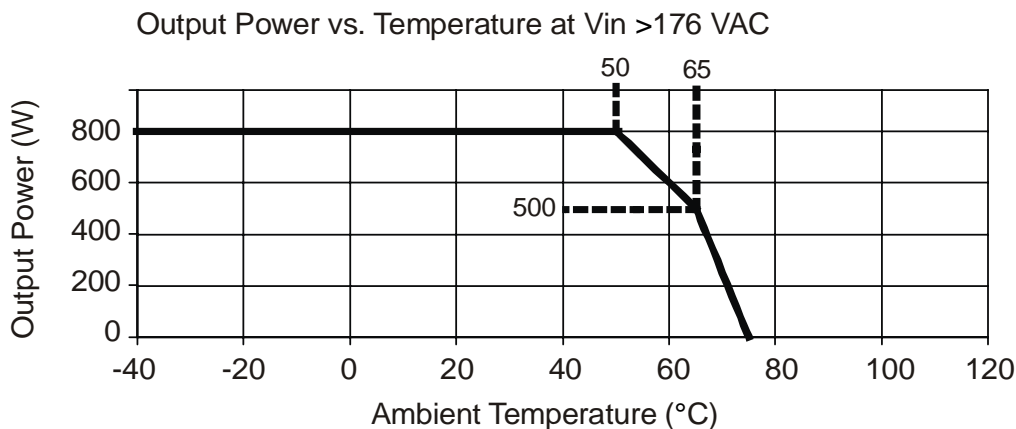

Figure 7
3.1.6 Power Derating Based on Temperature: The Rectifier Module delivers full power when operating at an ambient temperature of +50°C (+122°F) or below. Refer to Figure 7 to view the relationship between the output power and the ambient temperature.